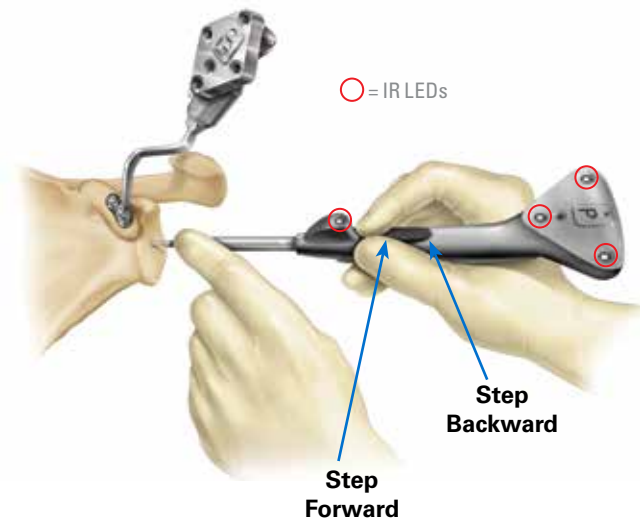

Figure 30a
Before beginning registration, ensure that the G Tracker is completely seated on the coracoid block. Press the Probe Tracker (P) with the index finger on the Forward button making sure not to obstruct the IR LED between the button and the probe tip (Figure 30a).